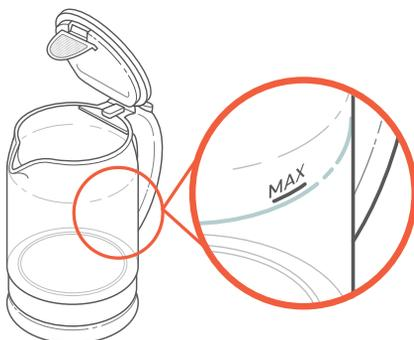

Figure 1.2
4. Fill the kettle with water to the **"MAX"** line, then close the lid. [\[Figure 1.2\]](#) Place the kettle onto the power base and plug in.